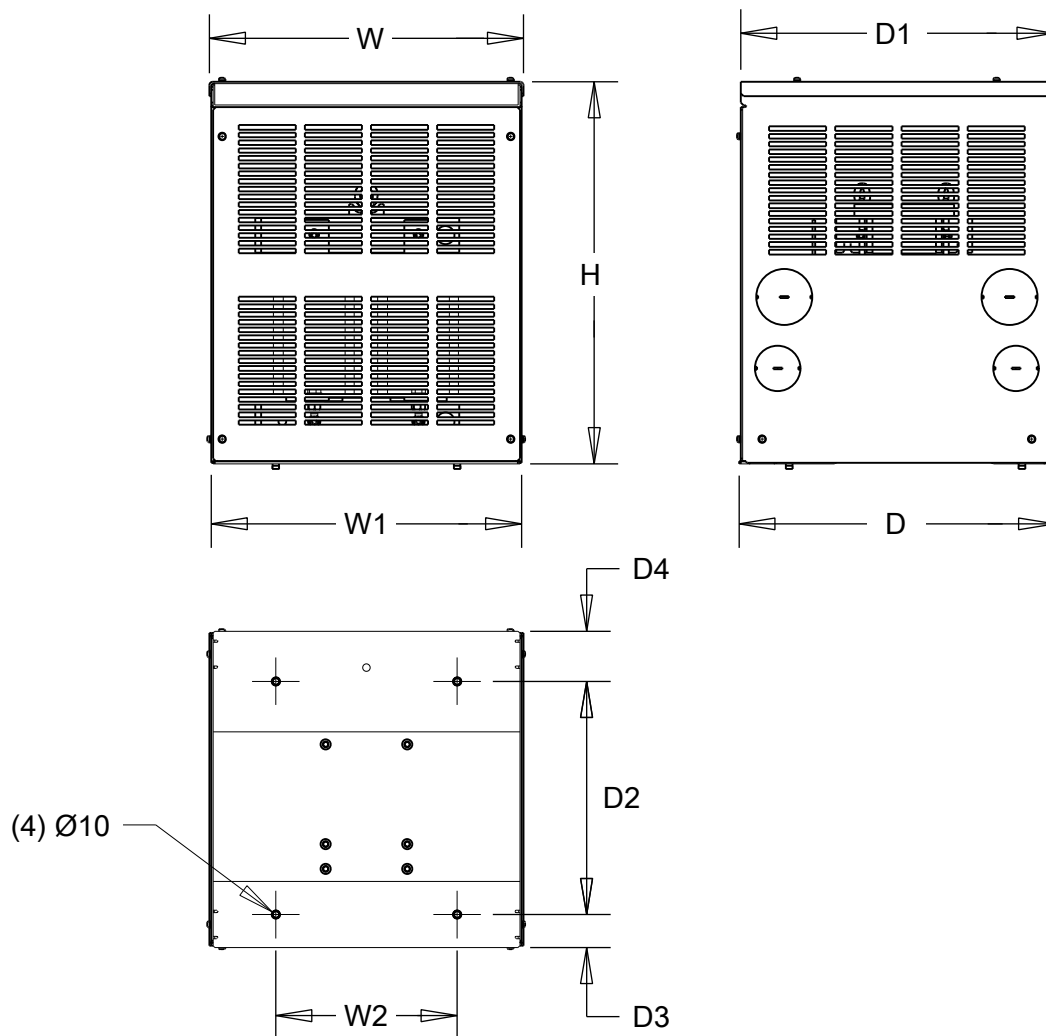
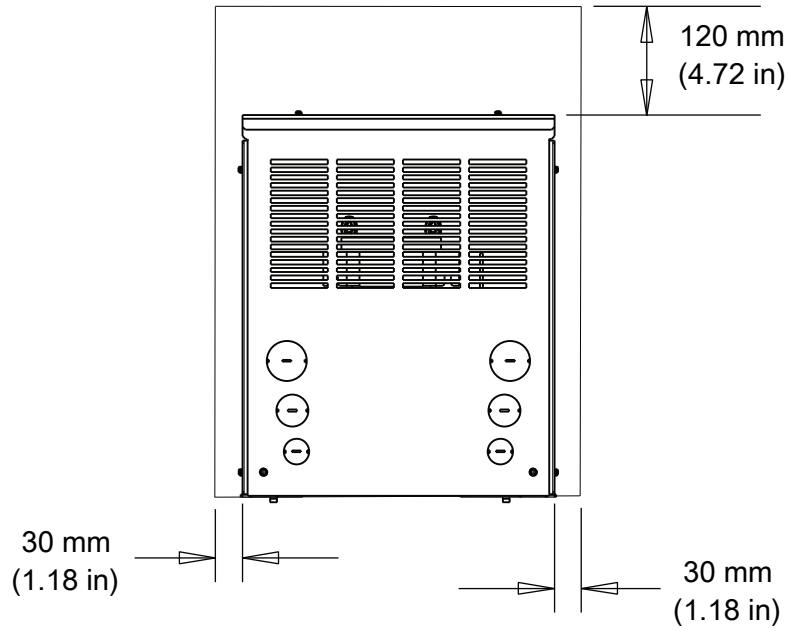

Figure 2.1 Exterior and Mounting Dimensions
Figure 2.2 Kit Installation Clearances
2. Use the information in Figure 2.1, Figure 2.2, and Figure 2.3 to make sure that the kit will fit in the desired installation location: